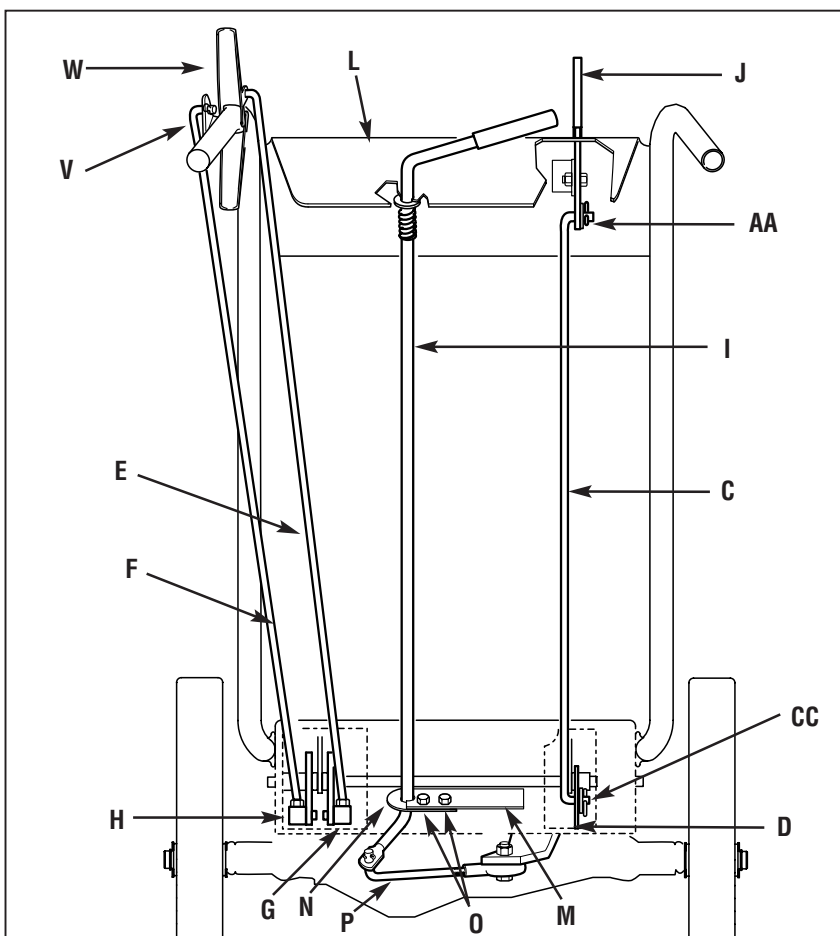
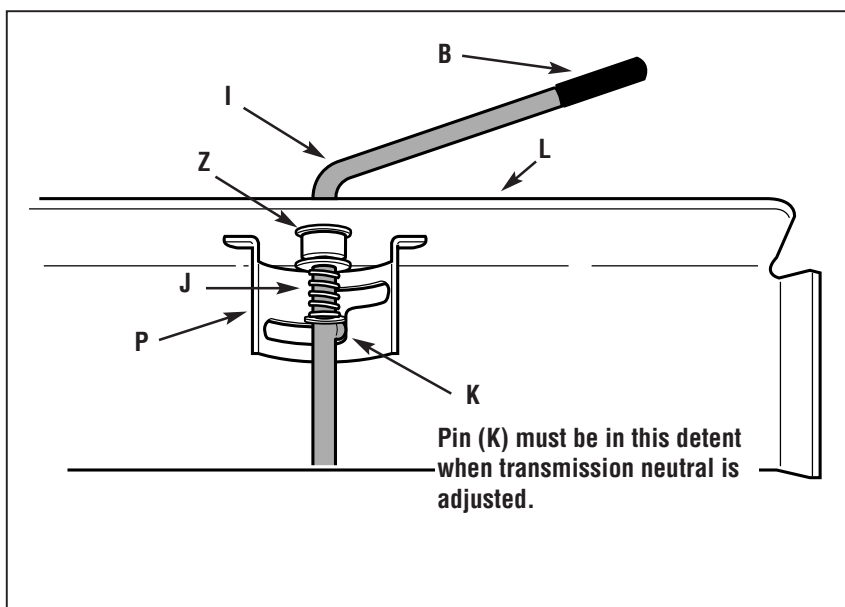
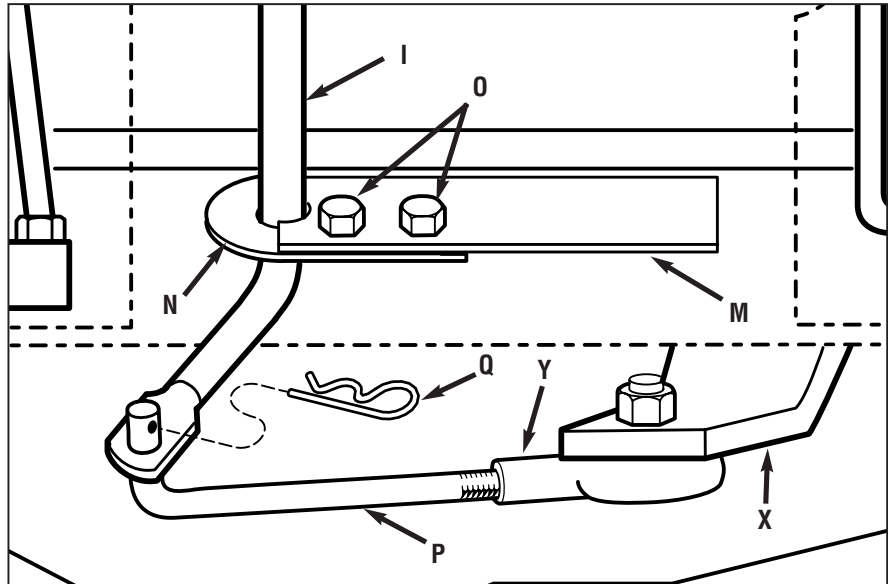

Figure 2-5: Rear view of control rods.
Figure 2-6: Detail - Gear Select Lever in Neutral (N) position.
Figure 2-7: Detail – Transmission Neutral Adjustment.
1. Locate the blade drive control rod (C, Figure 2-5). Insert one end of control rod into blade drive bracket (D, Figure 2-5). Add one 5/16" washer and attach with hairpin clip (CC).
2. Insert the other end of rod into bottom end of Blade Drive Control lever (J, Figure 2-5). Add one 5/16" washer and attach with hairpin clip (AA).
NOTE: The retaining plate (N, Figure 2-5) mentioned in the following steps is secured to the rear of the mower with two screws (O, Figure 2-5) and 1/4"-20 lock-nuts. Remove the retaining plate and save it, along with the two screws, before proceeding with assembly.
1. Remove the vinyl grip (B, Figure 2-6) from the gear select lever (I). Place the wood edge against the edge of the grip and slowly pull off the grip.
2. Insert nylon bushing (Z, Figure 2-6) up into console (L).
3. Slide spring and washers (J) down onto gear select lever.
4. Insert gear select lever (I) up through nylon bushing (Z) in handlebar console (L). Guide pin (K) on gear select lever into groove in shift quadrant (P).
5. Hold lower part of gear select lever (I, Figure 2-7) against bracket (M). Position retaining plate (N), removed earlier, as shown in Figure 2-7 (plate below bracket). Secure plate with two 1/4"-20 x 1/2" screws (O) and 1/4"-20 locknuts removed earlier.
6. Slide grip (B, Figure 2-6) back onto gear select lever (I).
7. Rotate gear select lever (I, Figures 2-6 & 2-7) clockwise until spur (K - short rod) on gear select rod stops in the neutral position detent on the shift pattern quadrant (Figure 2-6).
8. Move shift arm (X, Figure 2-7) from side to side as necessary into each transmission gear detent until transmission is in neutral.
NOTE: Moving shift arm (X) all the way to the left, and then one notch back to the right, should put transmission into neutral. When transmission is in neutral, unit will move freely when pushed while holding the Operator Presence Control lever (W, Figure 2-5) down. If transmission is NOT in neutral, there will be a slight drag on the wheels when pushing unit.
9. When shift arm (X) is in neutral position, rotate shift link (P) toward end of gear select lever rod (I). Adjust length of shift link (P) as necessary to fit into hole in bottom of gear select lever (I).
NOTE: Pin (K) on Gear Select Lever (I) must be held in the neutral position detent on the shift quadrant (see Figure 2-6) while shift link (P, Figure 2-7) is adjusted.
10. Insert hooked end of shift link (P, Figure 2-7) into hole in bottom end of gear select lever (I) and secure with hairpin clip (Q).
11. Remove unit from shipping crate. To remove, hold down Operator Presence Control lever (W, Figure 2-5) which releases the wheel brake.
12. With unit on level ground, hold down Operator Presence Control lever (W, Figure 2-5) and push unit forward and backward. The wheels should move freely. If not, adjust length of shift link (P, Figure 2-7) as necessary.
13. Put the Gear Select Lever in neutral (N), release all of the control levers and try to push the unit forward and backward. The wheels should not turn. If they do turn, an adjustment is necessary. DO NOT OPERATE THE UNIT UNTIL THE WHEEL BRAKE MECHANISM HAS BEEN ADJUSTED AND IS WORKING PROPERLY. See "Wheel Brake Adjustment" in Section 5 "Maintenance."
1. Move mower to a level area. Press and hold Operator Presence Control lever (W, Figure 2-5) to move mower.